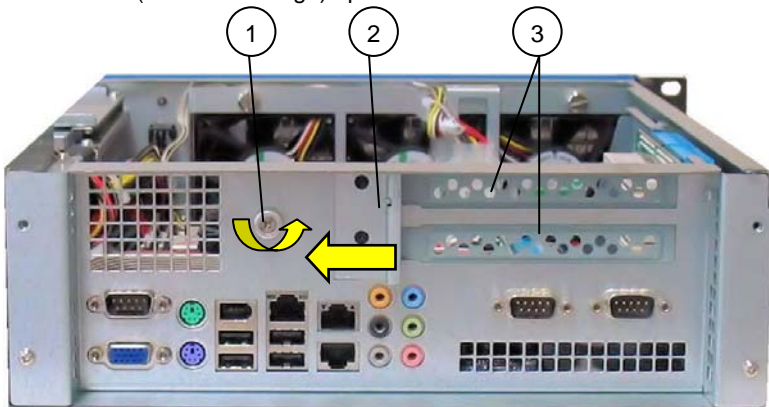

Fig. 16: Detail: Rear side with slide bracket closed (for fixing the expansion cards)
6. Loosen (turn 1/2 to the left) the knurled screw (Fig. 16, pos. 1) to unlock the slide bracket (Fig. 16, pos. 2) fixing the blanking plates or the plates of the expansion cards.
11. Lock the slide bracket in this position by fastening the knurled screw (Fig. 16, pos. 1) firmly.